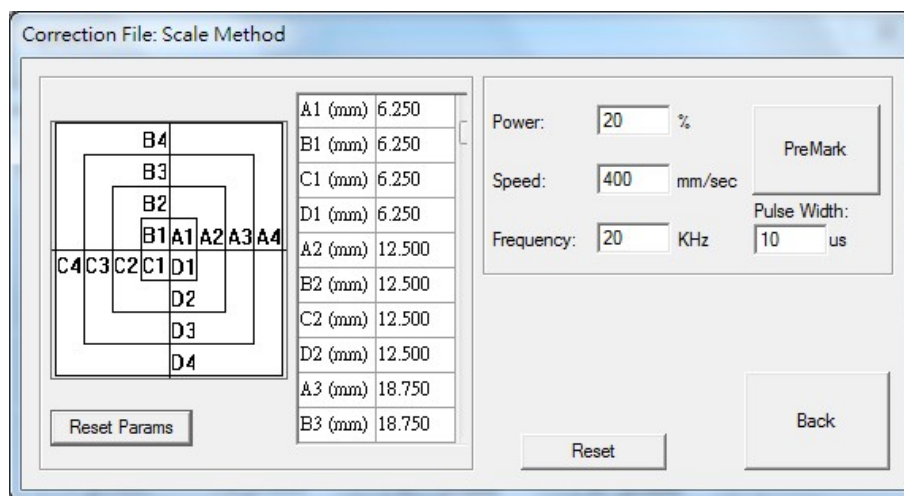

Fig. 4.3.05
- Step 1** Select a Scale (K) value which is close to the voltage ratio of lens and driver. Then select correct rings from the list. The more correct rings users select the better accuracy they will get.
- Step 4** Click the “Input Data” button for next step, see Fig.4.3.05.